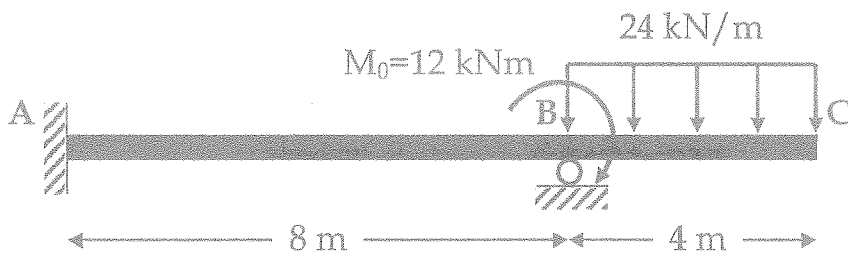

Fig. Q5
- b) A circular beam ABC fixed at Node A, roller support at Node B as shown in Fig Q5. The Young's modulus of the beam is $E = 210$ GPa. Consider uniform load applied for beam BC as 24 kN/m and a clockwise moment 12 kNm at Node B.